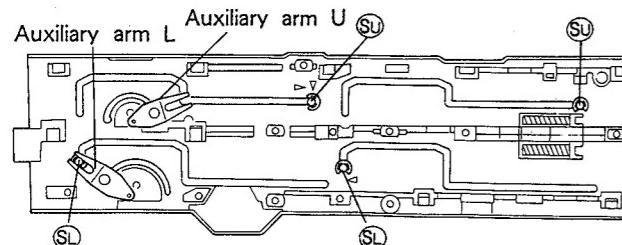

Fig. 3-1
1. Set shaft  $S_U$  of slide-angle U unit, shaft  $S_L$  of slide-angle L unit, auxiliary arm U, and auxiliary arm L to the positions shown in Fig. 3-1.